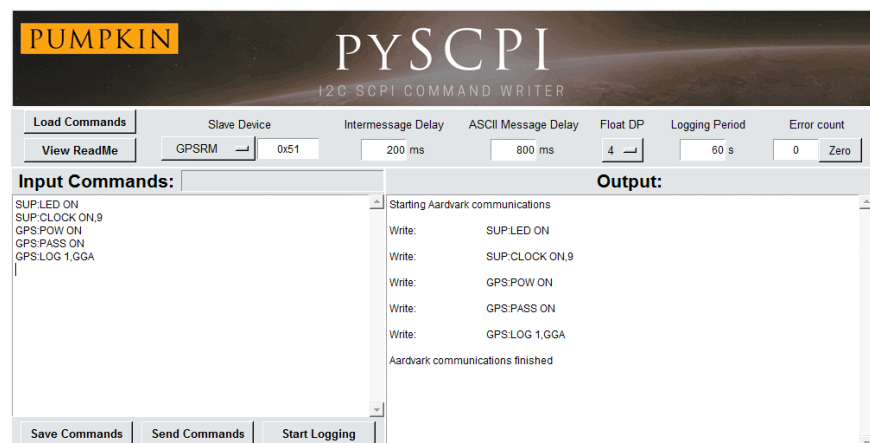

Figure 9: pySCPI output for commands sent to GPSRM 1
The results are shown in Figure 9. From it we see that there is a telemetry item 5 that returns the GPSRM 1's elapsed time, in seconds, from when it was powered on. We also see that in this GPSRM 1 firmware release, there are nine SupMCU-specific telemetry items.